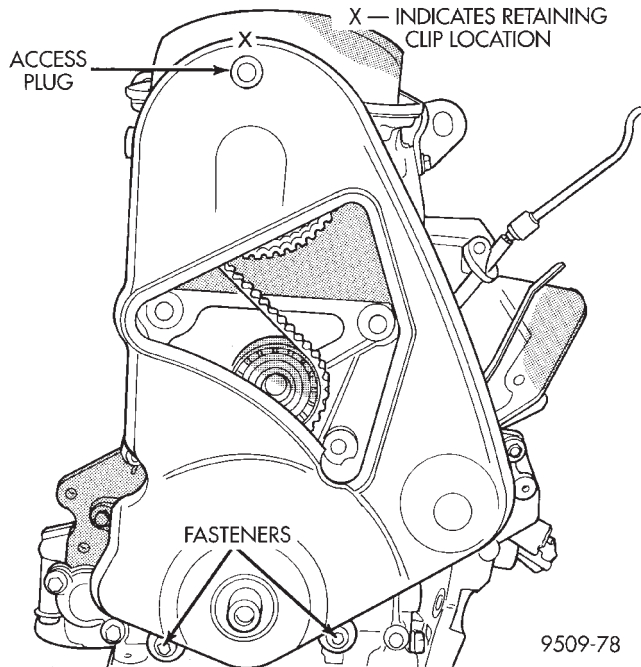

Fig. 63 Timing Belt Cover
- (9) Remove front timing belt cover (Fig. 63).